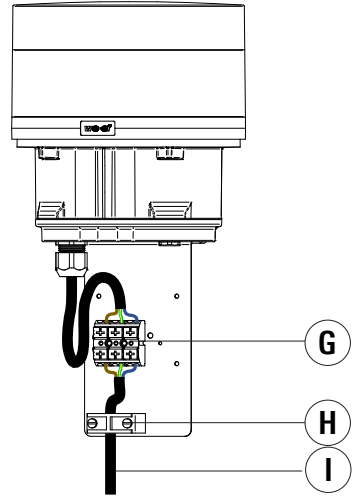
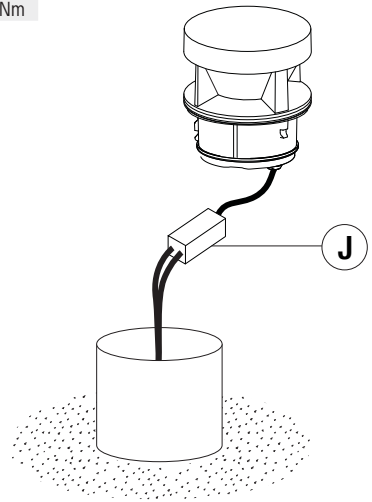

Fig. 2
Fig. 3
- 6) As per Fig. 2 Connect luminaire cable **I** to mains supply terminal block located on the gear tray **G** on the underside of the head **B**, and is secured by the clamp **H**. **Note** : The KTX does not have the gear tray and must be connected via a compliant IP67 junction box **J** (not supplied) as per Fig. 3.